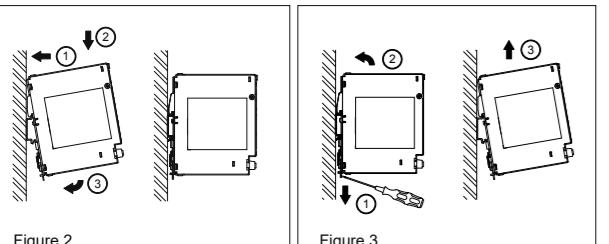
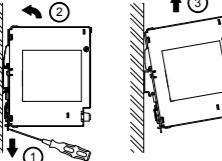

Figure 2
Figure 3
3. Mounting and dismantling (Fig. 2, Fig. 3)
- Tilt the unit slightly upwards and put it onto the DIN rail. Snap on the DIN rail as shown in Fig. 2.
- To uninstall, pull or slide down the latch as shown in Fig. 3. Then, slide the PSU in the opposite direction, release the latch and pull out the PSU from the rail.